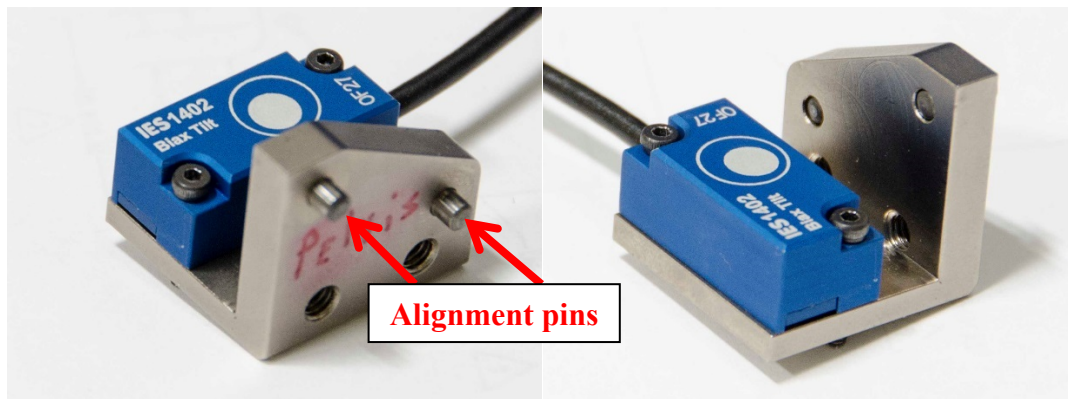
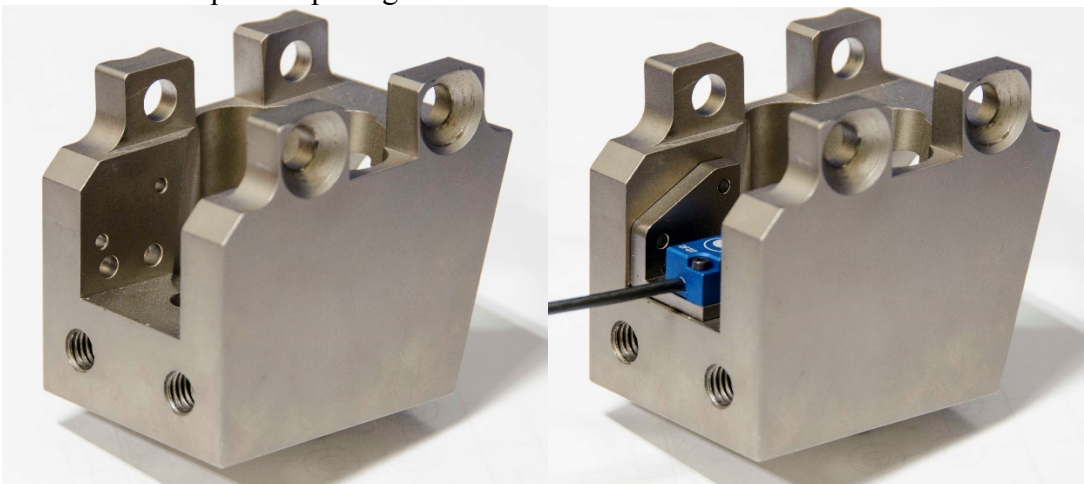
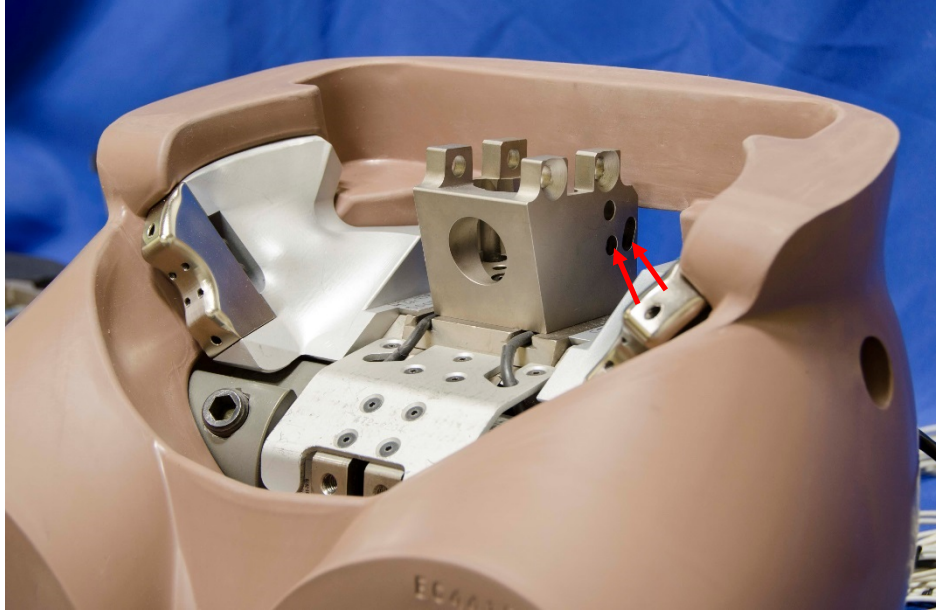

Figure 10-44. Pelvis tilt sensor installed to mount
Figure 10-45. Installing pelvis tilt mount assemblies (lumbar mounting block uninstalled for illustrative purposes)
Figure 10-46. Secure pelvis tilt sensor mount assembly to pelvis
10.2.3.3 Install the Dual Axis Tilt Sensor (SA572-S44) to the Pelvis Tilt Sensor Mount Assembly (472-3787) using two M2 x 0.4 x 10 SHCS. (Figure 10-44).
10.2.3.4 Insert the pelvis tilt mount assembly into the pelvis/lumbar mounting block; align the tilt sensor mount pins with the holes on the left side of the pelvis block (Figure 10-44 and Figure 10-45). Note that Figure 10-45 shows the lumbar mounting block uninstalled from the pelvis for illustrative purposes; the tilt sensors cannot be installed prior to securing the pelvis/lumbar mounting block to the pelvis. Secure the pelvis tilt sensor mount assembly to the pelvis/lumbar mounting block using two M4 x 0.7 x 8 SHCS (Figure 10-46) through the left side of the mounting block. Pass the wiring through the back of the pelvis opening.